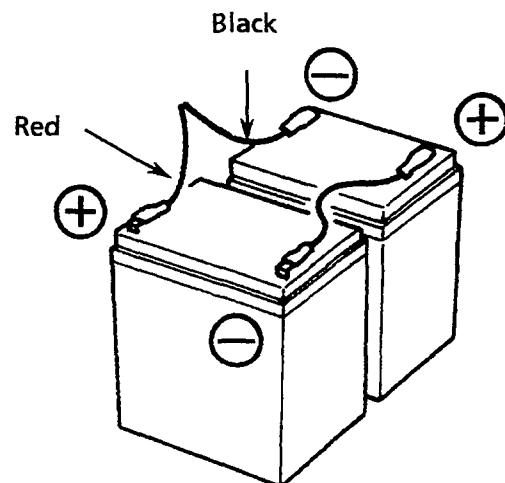

Figure 3-58 Connecting the Two PSF Built-In Batteries
1. Connect the two batteries in series. Refer to Figure 3-58 - Connecting the Two PSF Built-In Batteries.